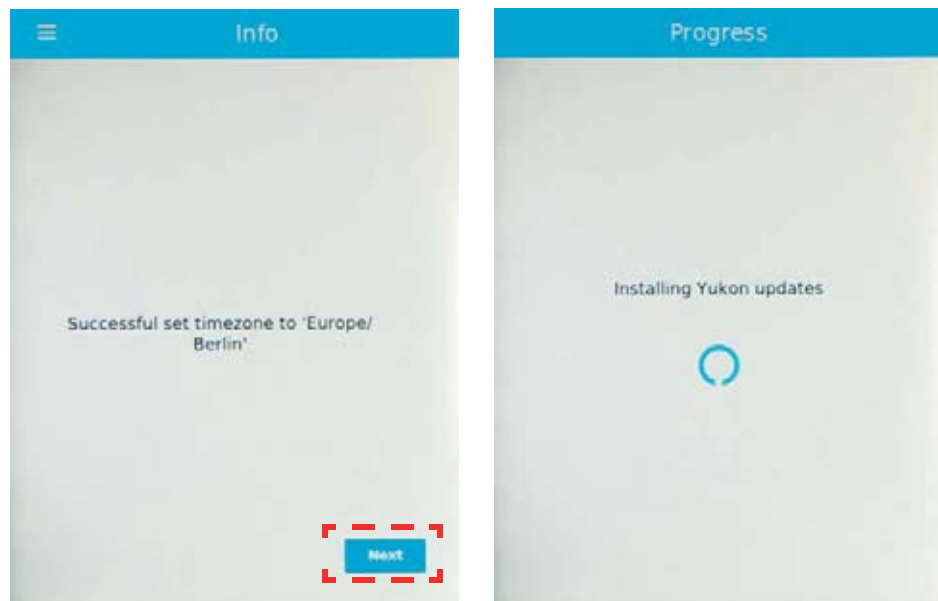

Figure 4-8 BAT - Pre-Initialization: Confirm Time-Zone, Install Yukon Updates
- Step 10** Confirm time zone by pressing <Next>, see **Figure 4-8** (left). The Yukon updates will be installed, see **Figure 4-8** (right).